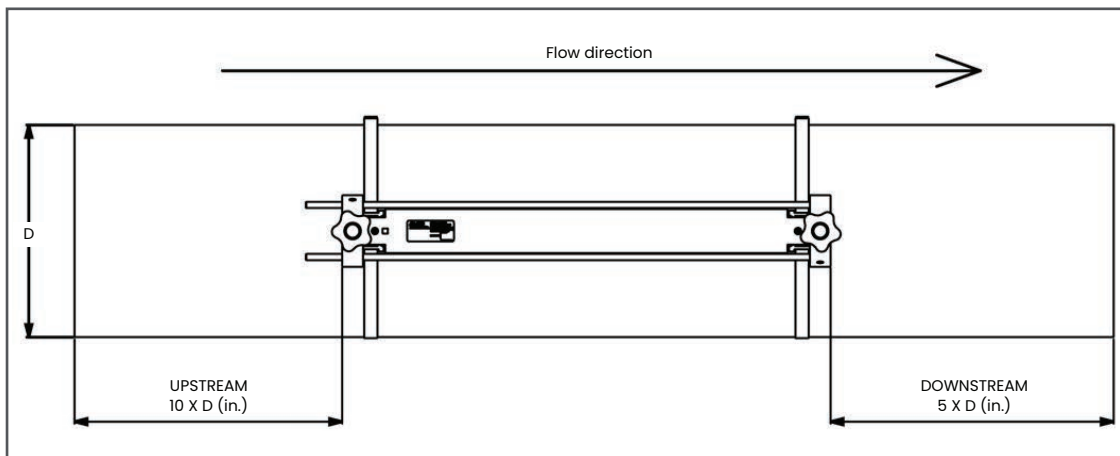

Figure 6: AT620 Clamp-on Fixture/Transducer Location
- Position the clamp-on fixture(s) and transducer system so that there are at least 10 pipe diameters of straight, undisturbed flow upstream and 5 pipe diameters of straight, undisturbed flow downstream from the measurement point (see *Figure 6* below). Undisturbed flow means avoiding sources of turbulence in the fluid such as valves, flanges, expansion joints, elbows, swirl, and cavitation.
- a. Choose a location with enough straight pipe run (refer to *Figure 6 on page 7*).